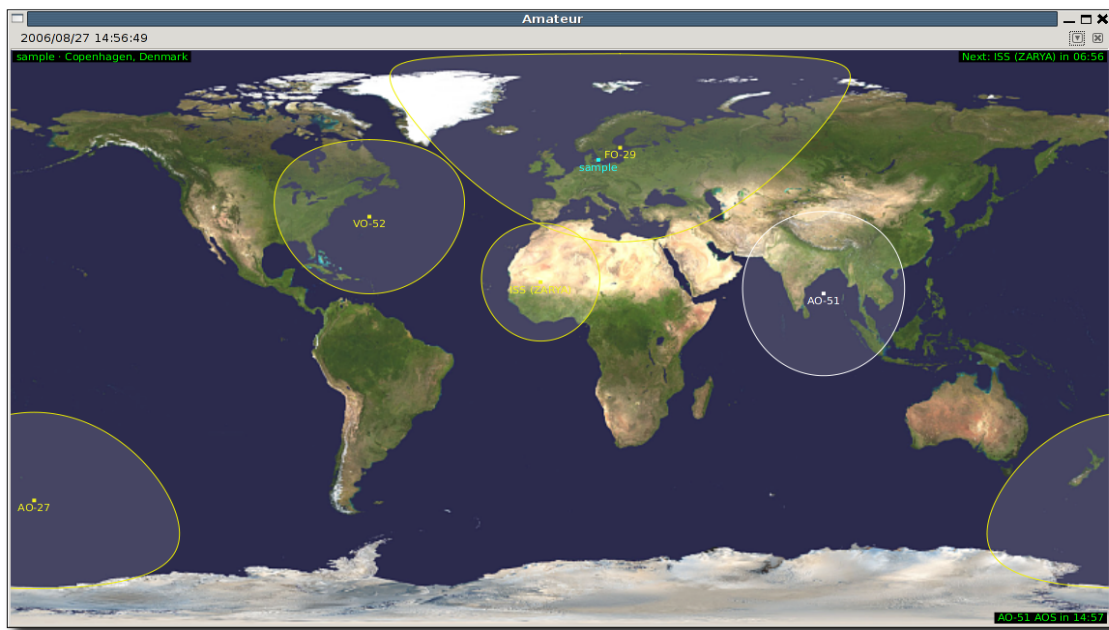

Figure 4.2: The map view using the default settings.
Figure 4.2 shows how the map view looks like using the default settings. As you can see, the satellites are shown as small yellow squares with their name is printed just below the square⁴. The footprints of the satellites is drawn using the same colour as the satellite mark and label, and the area covered by the footprint is highlighted using transparent white colour.
As you can see on figure 4.2, satellite AO-51 is drawn in white instead of yellow. This means that AO-51 is selected. You can select a satellite by simply clicking on it with the left mouse button. You can click anywhere within its footprint area. The selected satellite will have its next AOS or LOS time shown in the lower right corner of the map view. Selecting a satellite will clear any other selection, that is you can have only one satellite selected at a time. You can also clear your selection by clicking once more on the selected satellite.
- **Next Event:** Checking this box will show in the upper right corner which satellite will come up next as when it will come up. The time is shown as a countdown to the event. Figure 4.2 shows that the next satellite will be ISS (ZARYA) and that it will come up in 06m56s. Please note that the countdown is not necessarily updated in real-time. Actually, it is only updated every time the map view is refreshed, see description of refresh rates in section 2.3.3 – Module Properties.